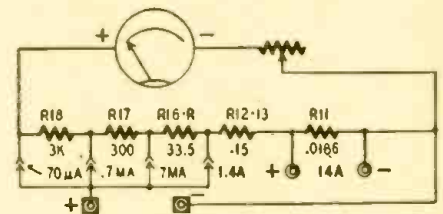

Fig. 3—Breakdown of direct current section.
**Direct Current section; shown in Fig. 3:**